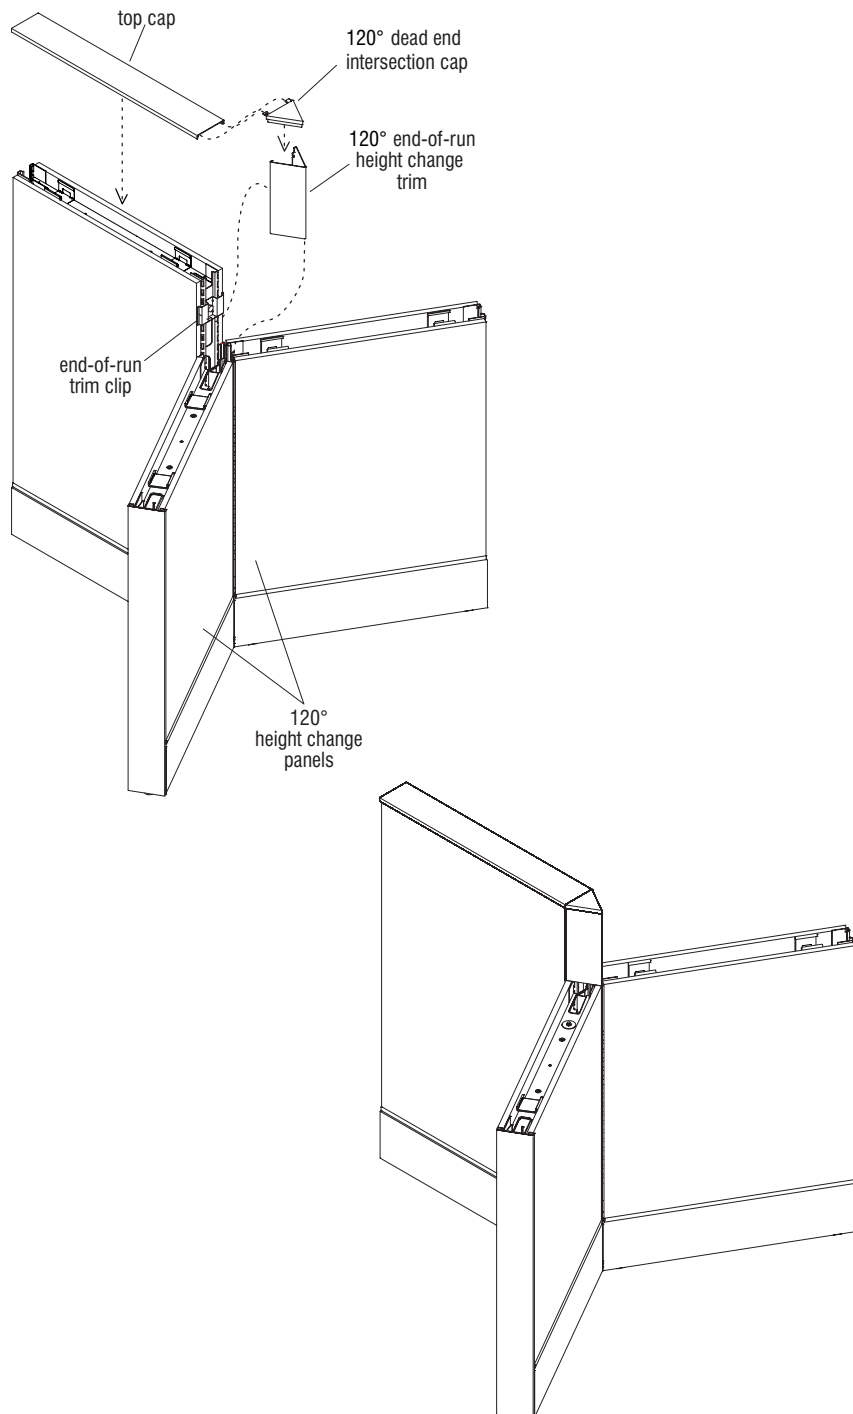

Figure 16 - End-of-Run 120° Height Change Vertical Trim
1. Orient the “120° end-of-run height change trim” with the top up, so it aligns properly with the installed end-of-run trim clip. Correctly positioned, the longer tabs of the trim will be to the top, and the smaller tabs with paint-hanging hole will be at the bottom. The bottom of the upper tabs will rest on the top edge of the end-of-run trim clip (Figure 16).
3. Hook one side of the 120° end-of-run height change trim onto the end-of-run trim clip. Rotate the hooked trim towards the un-clipped side, up against the trim clip and snap the trim into place by striking at the side opposite the loose side, toward the loose side with a rubber mallet or the palm of your hand. Ensure that the clip(s) are fully engaged to prevent trim from falling off (Figure 16).
4. Finally, orient the “dead end intersection cap” as illustrated and insert the tabs of the cap into the narrow slots in the top cap. Mate the dead-end intersection cap into the top of the end-of-run height change trim and snap the top cap into place at the top of the panel frame (Figure 16).